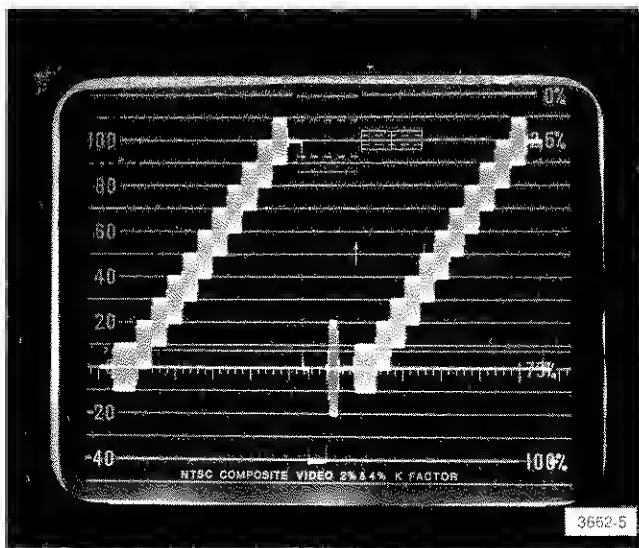

Fig. 2-3. Displays of a 10-step modulated staircase signal with the RESPONSE switch set to FLAT and the SWEEP switch set to 2H.
12. Set the VOLTS FULL SCALE switch to A 1. Use the vertical POSITION control to align the blanking level of the waveform with the 0 IRE graticule line. A modulated staircase waveform similar to the one shown in Fig. 2-3 should be displayed. The FLAT position of the RESPONSE switch provides a flat frequency response from 25 Hz to approximately 5 MHz.